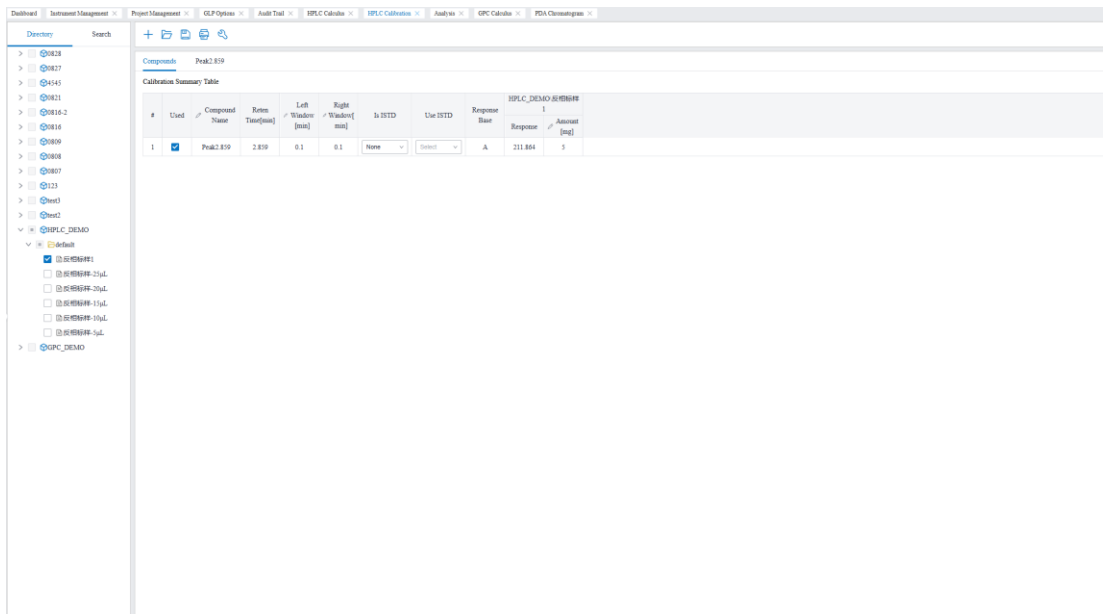

Figure 7-4 Open the first calibration spectrum
(3) Open the pre-processed standard spectrum in the left chromatogram list, and all integral peaks of the standard spectrum will be displayed in the calibration summary table on the right, as shown in Figure 7-4.